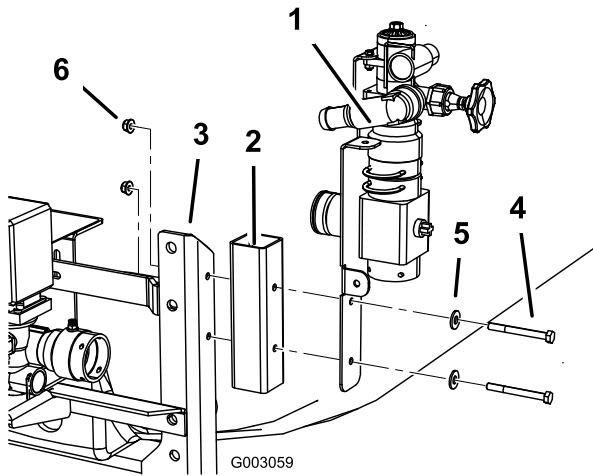

Figure 10
3. Install the control valve and valve mounting tube to the right rear boom frame (Figure 10) using two bolts (5/16 x 3 inches), two washers (3/8 inch) and two flange nuts(5/16 inch).